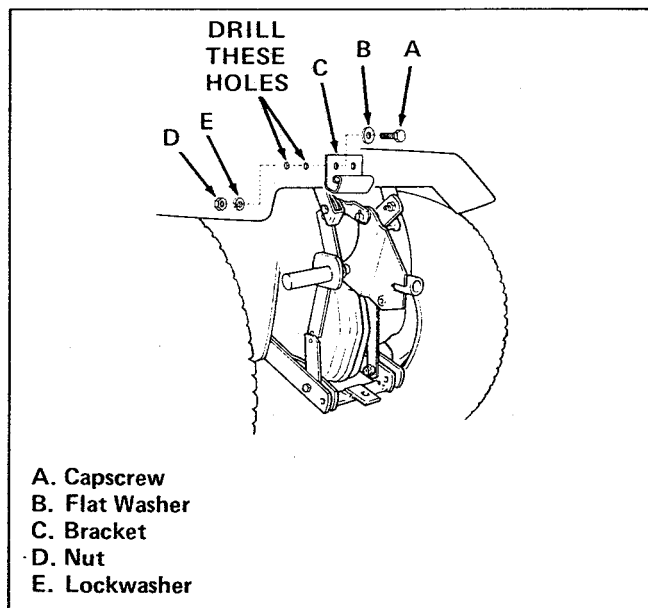

Figure 17. Bracket Assembly
5. Attach bracket (item C, figure 17) to seat deck. Use two capscrews (item A), flat washers (item B), lockwashers (item E), and nuts (item D) to secure bracket in place.